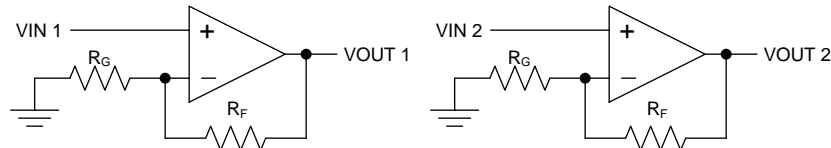

图 40. Schematic Representation for 图 41
- Place the external components as close to the device as possible. Keep R_F and R_G close to the inverting input to minimize parasitic capacitance, as shown in Figure 40.